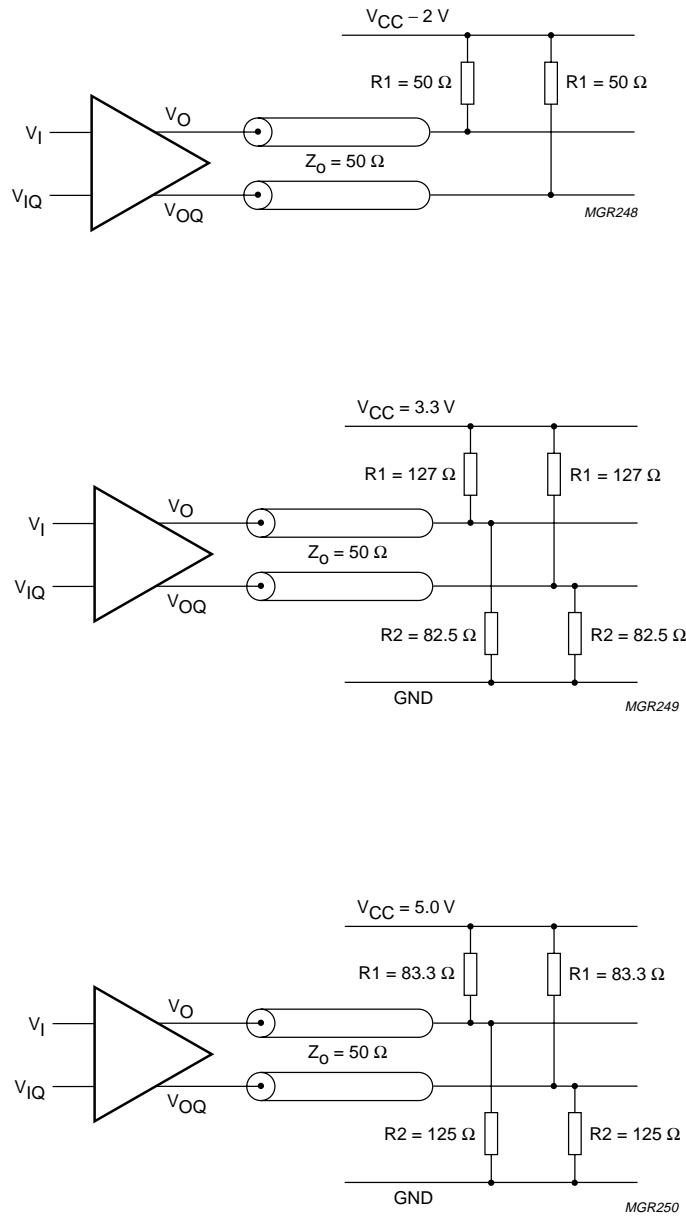

Fig.9 PECL output termination schemes.
Some PECL termination schemes are given in Fig.9.
- RL = 50 Ω connected to a level of VCC – 2 V (see Fig.9).